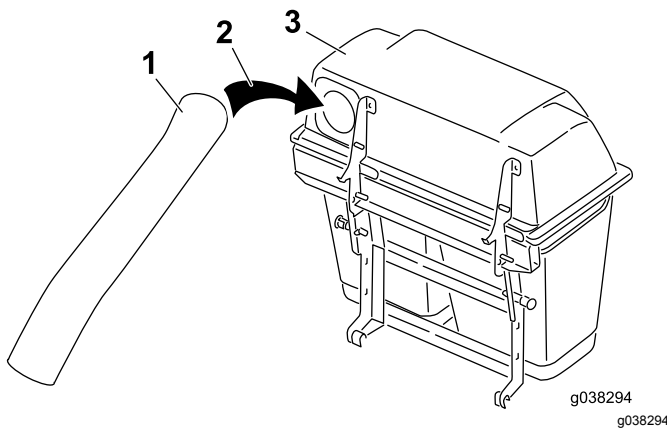

Figure 48
5. Install the upper tube into the bagger opening and pull it back out so that the hopper seal is protruding out (Figure 48).